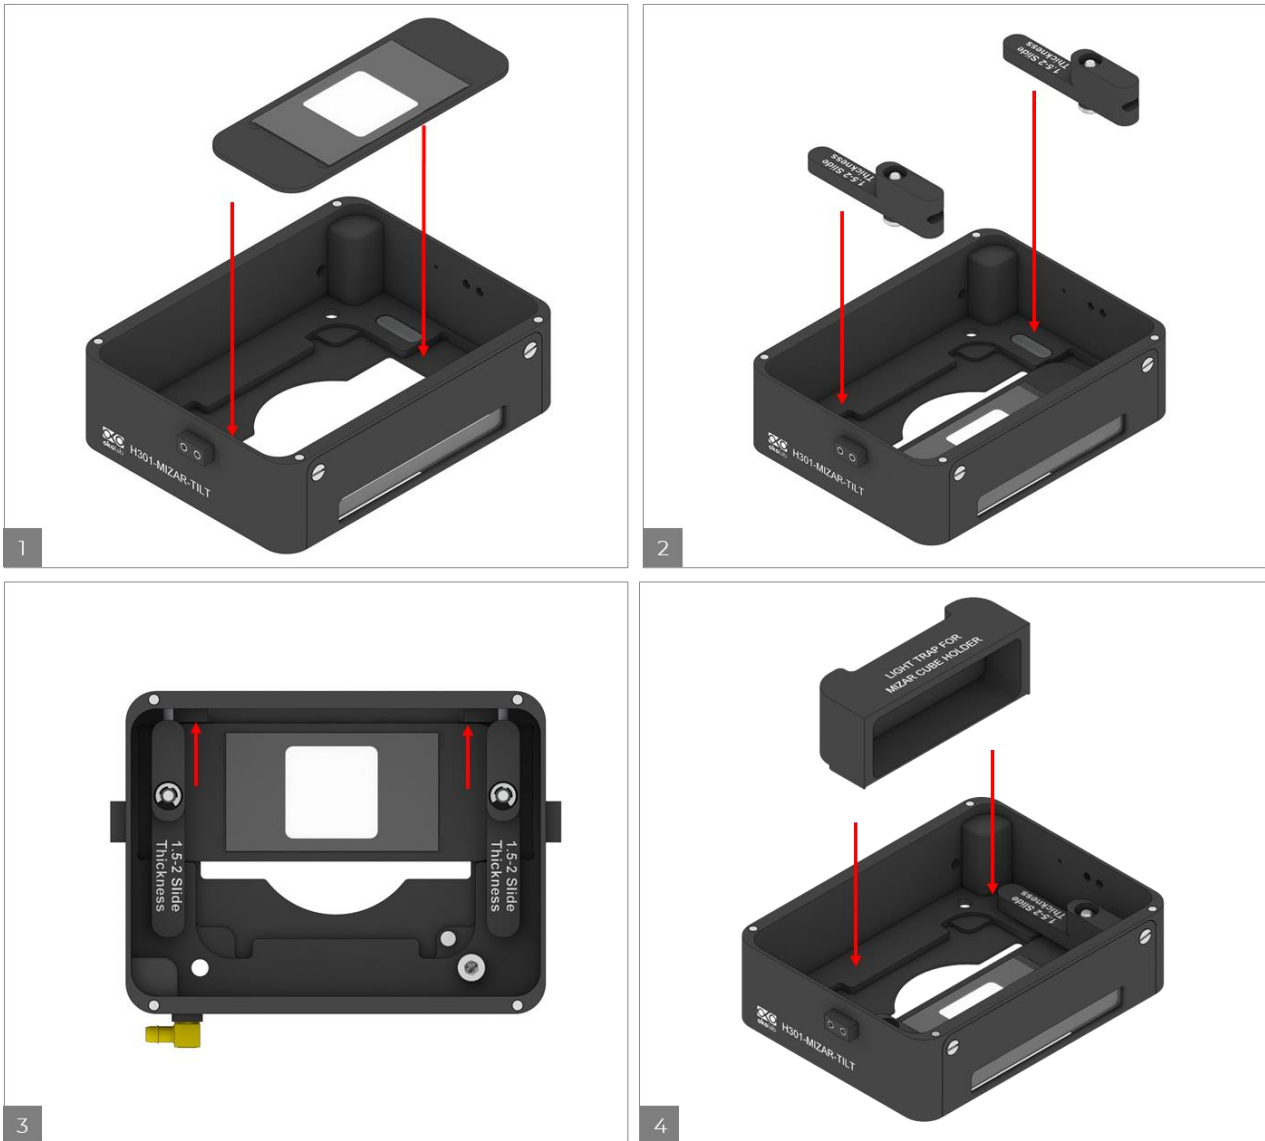

Figure 8. Working with MIZAR-1x22by40.
The MIZAR-1x22by40 fits into the Chamber Base and it is held in place by the magnetic clamps in order to prevent movement inside the opening on the base. To insert the MIZAR-1x22by40 Sample Holder, follow the steps shown in Figure 8 and listed below:
1. Insert the MIZAR-1x22by40 into the Chamber Base (see image 1 in Figure 8).
2. Place the magnetic clamps over the insert (see image 2 in Figure 8), then push down the head of the clamps simultaneously and move it in the direction shown in the image 3 of Figure 8.
3. Insert the Light Trap into the Chamber Base as shown in image 4 in Figure 8.